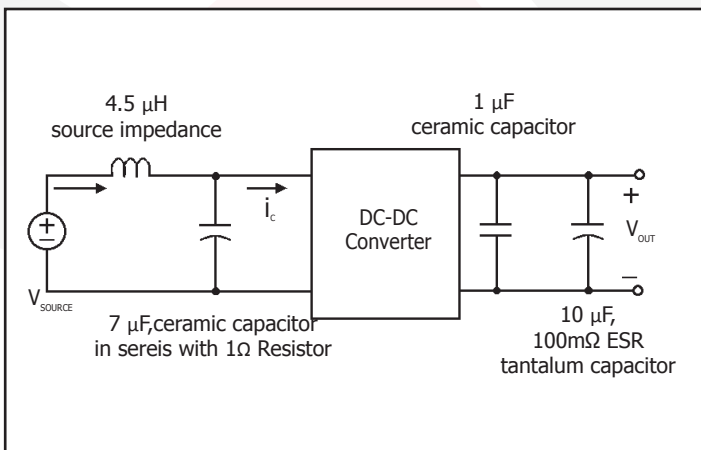

Figure 17: Test set-up diagram showing measurement points for Input Terminal Ripple Current (Figure 9) and Output Voltage Ripple (Figure 10).
**Figure 10:** Output voltage ripple,  $V_{out}$ , at nominal input voltage and rated load current (200 mV/div). Load capacitance: 1 $\mu$ F ceramic capacitor and 10 $\mu$ F tantalum capacitor. Bandwidth: 25 MHz. See Figure 17.